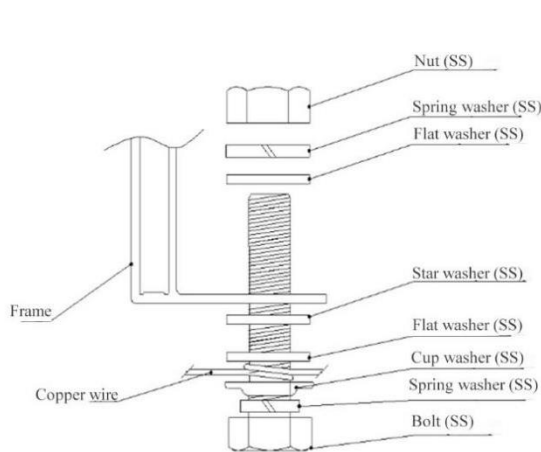

Figure 23 Schematic diagram for installation of grounding wire fitting bolt
- Grounding cables and bolts are used in installation: grounding bolts are recommended to be made of stainless steel and used on the designated grounding holes. Insert the stainless steel bolts first through the spring washer, cup washer, flat washer and star washer, then through the ground hole, flat washer and spring washer of the frame, and finally tighten them with nuts. The installation diagram is shown in Figure 23.